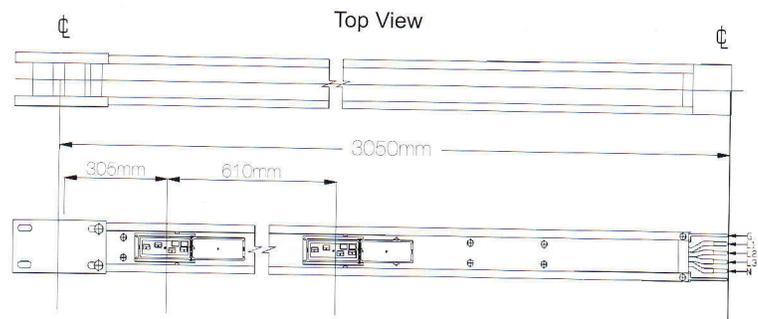

Fig 10.2 Standard Plug-in Section - Top and Side Views
**Plug-in section** – is designed to provide convenience and to allow the power to be tapped off from the LIVE busway section for a variety power usage based on the customer's requirement. It is complement with the plug-in unit. The maximum current capacity of each opening is 400A. Refer Fig.10.2